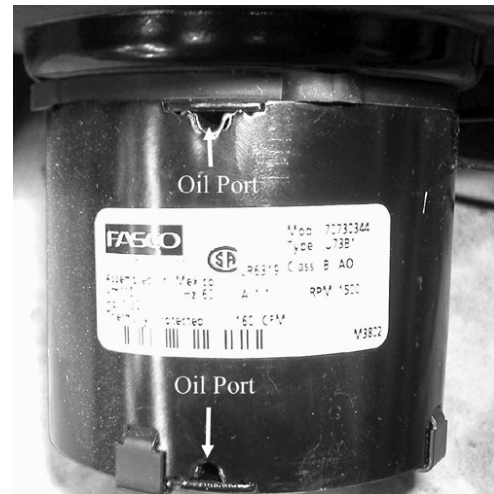

Figure 23. Oil ports on a circulation fan.
5. Oil the circulation fan motor. To oil the motor bearings, the right side cover panel must first be opened. This is done by removing the 2 bolts securing the panel to the casting as well as removing the screws holding the panel to the hopper and base plate. Use a Robertson (square head) or Common (flat head) screwdriver to remove the screws. You will now be able to remove the panel and access the circulation fan. There are 2 oil ports located on top of the motor (one near the end and one near the fan housing as shown in Figure 23). There may be rubber plugs in one or both of these oil ports. These plugs must be removed prior to and replaced after oiling. Place a few drops of light oil, such as sewing machine oil, in each port.